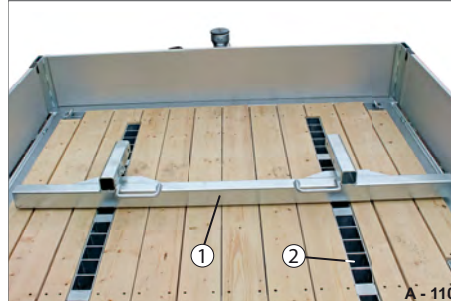

Fig. 165 Moving the securing rail
- ▶ Insert the securing rail (Fig. 165/1) into the required adjustment grid (Fig. 165/2).